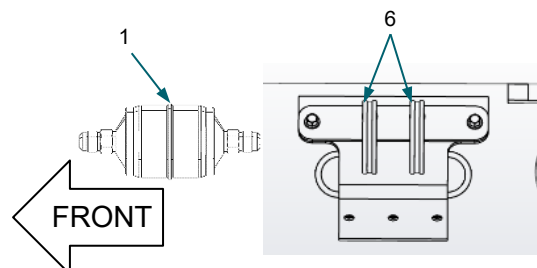

Figure 5:
- Loosen P-clamps (6) to remove Fuel Filter (1). *Figure 5*